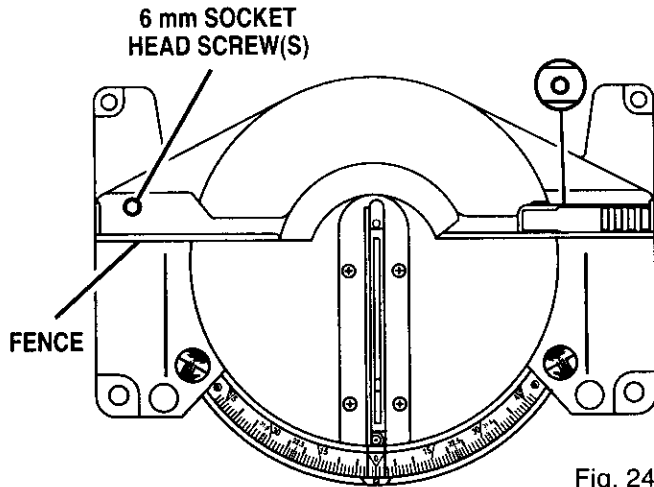

Fig. 24
- Using a 6 mm hex key, loosen the socket head screws securing the fence. See Figure 24. Adjust the fence left or right until the framing square and throat plate are parallel.